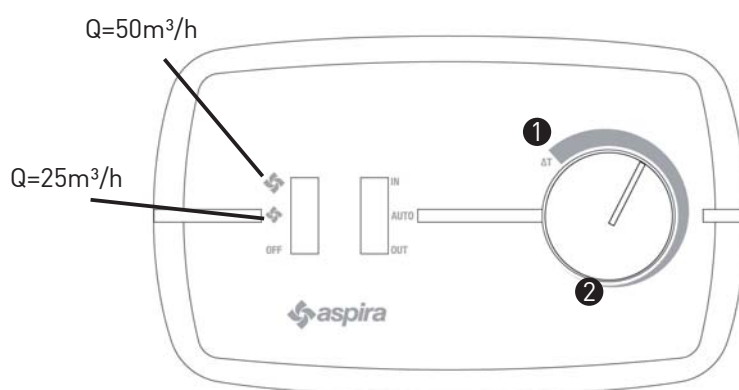

Figure 14
If for example in winter the exterior temperature is -15°C and thus the difference in temperature ΔT between the interior and the exterior is raised, turn the knob to position (1). Unlike a day in spring, where the difference in temperature ΔT is minimal or close to zero, turn the knob to position (2) (Figure 14).